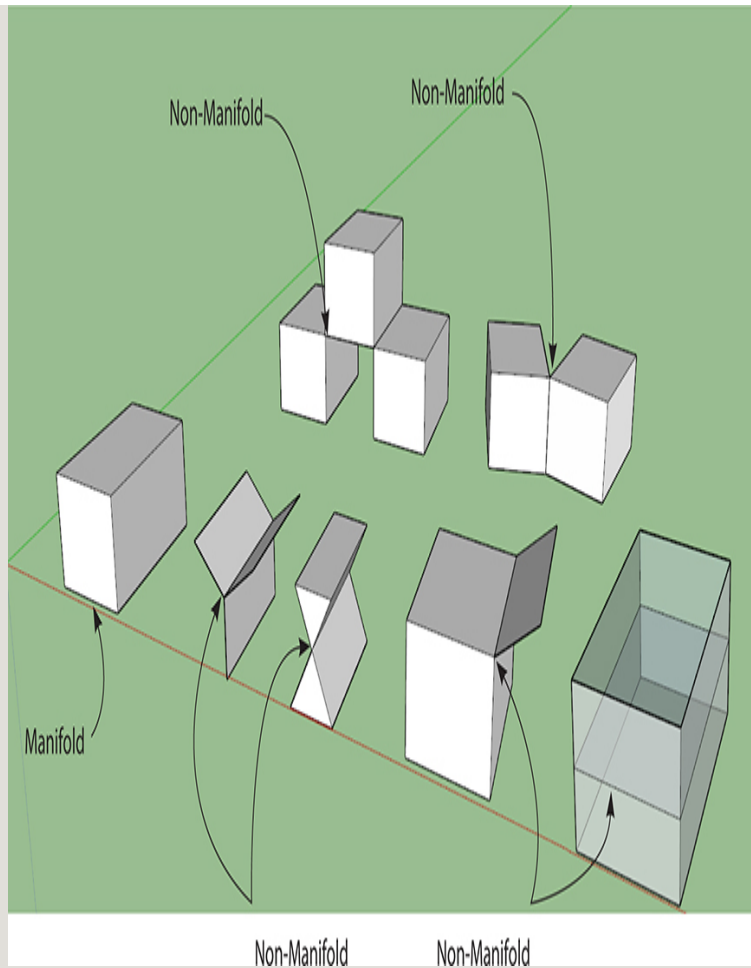

Figure 5-5 Manifold and non-manifold edges.
- **Be manifold.** This means that each edge must connect to exactly two faces. Non-manifold edges connect to three or more faces, don't connect to any faces, have overlapping vertices, or have overlaid faces (the last is what causes SketchUp's flashing). This is an issue because each vertex has a unique *X, Y, Z* coordinate that the printer reads, and overlapping coordinates confuse it. Figure 5-5 shows the many configurations non-manifold edges can take.